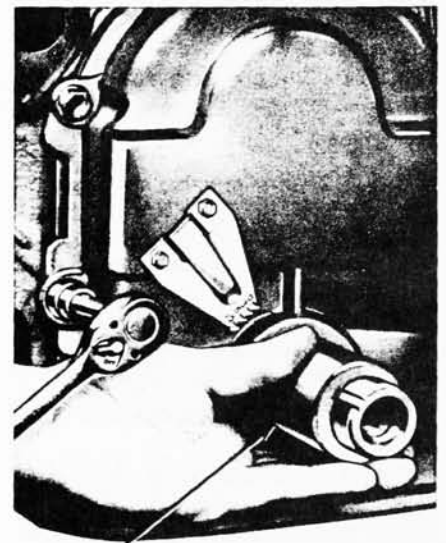

FIG. 59—Cylinder Front Cover Alignment
5. Install the alignment pilot tool on the cylinder front cover so that the keyways in the pilot aligns with the keyway in the pilot aligns with the cover and pilot over the end of the crankshaft and against the block (Fig. 59). Install the retaining screws.